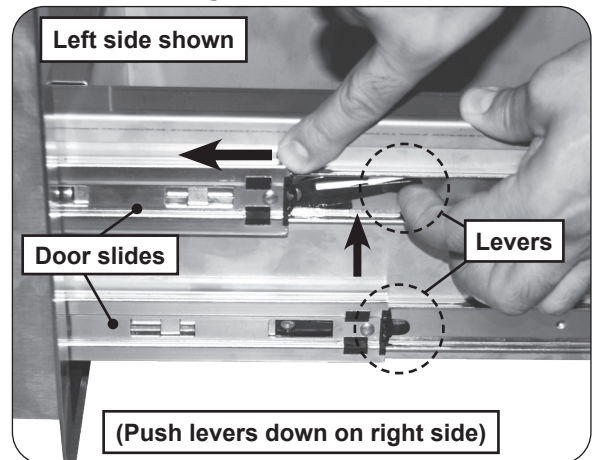

Fig. 1-2 Door removal
4. Release the door from the door slides by pressing the 2 black levers up on the left side and down on the right side (with the levers pressed, the door slides will need to be pushed back to unlock.) See Fig. 1-2. After all slides are unlocked, pull the door off completely.